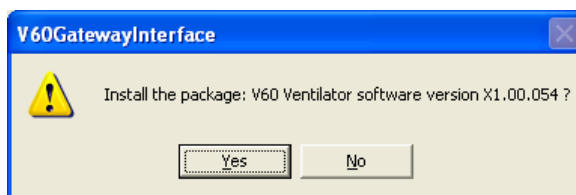

Figure A-13: Confirmation Screen
8. At the confirmation screen, click **Yes** to continue the software installation or **No** to exit (Figure A-13).